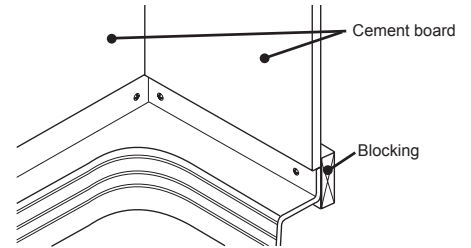

Figure 6
- 8** Replace the strainer, if your drain kit came with one, and tape over the drain hole to prevent finishing material from entering the drain. Place a cement board or equivalent on top of the shower base flange and secure to studwall, see Figure 6.